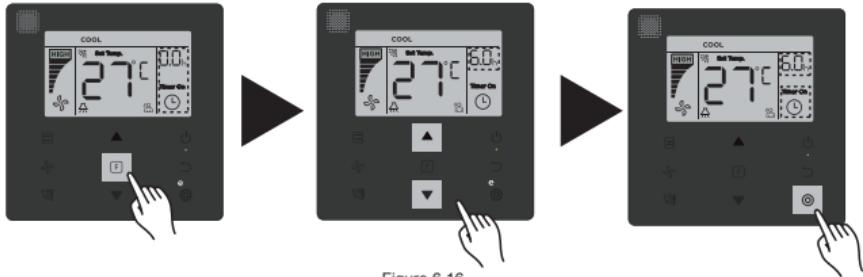

Figure 6.16
- 1) "Timer On" setting: press  (Function) button to go to the "Timer On" setting, the display will show "0.0h Time On", and the words "Time On" will blink, then press  (Confirm) button to go to the timer setting. Press  and  buttons to adjust the time, and press  (Confirm) button to complete the timer setting (see Figure 6.16).